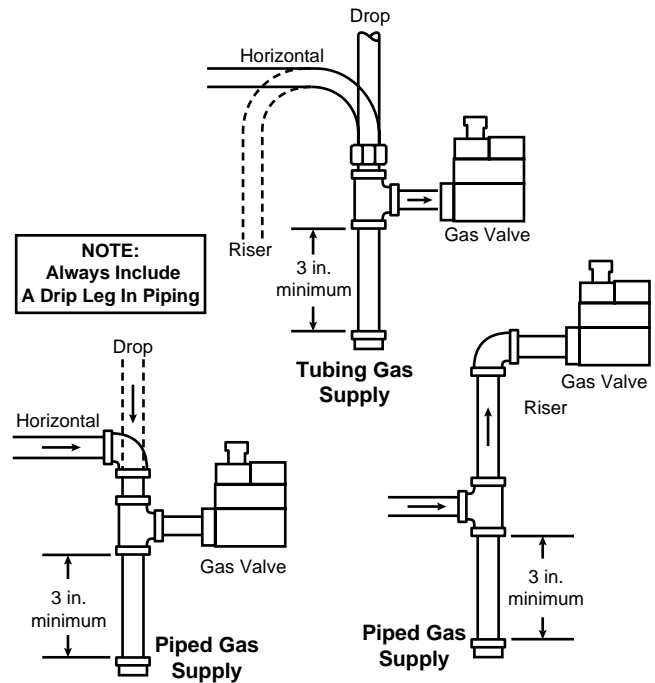

Figure 1. Typical gas valve piping
5. Apply pipe joint compound (pipe dope) or teflon tape **that is approved for all gases, only to the male threads of the pipe joints**. **DO NOT** apply compound or teflon tape to the first two threads (see fig. 1 for typical piping connections).